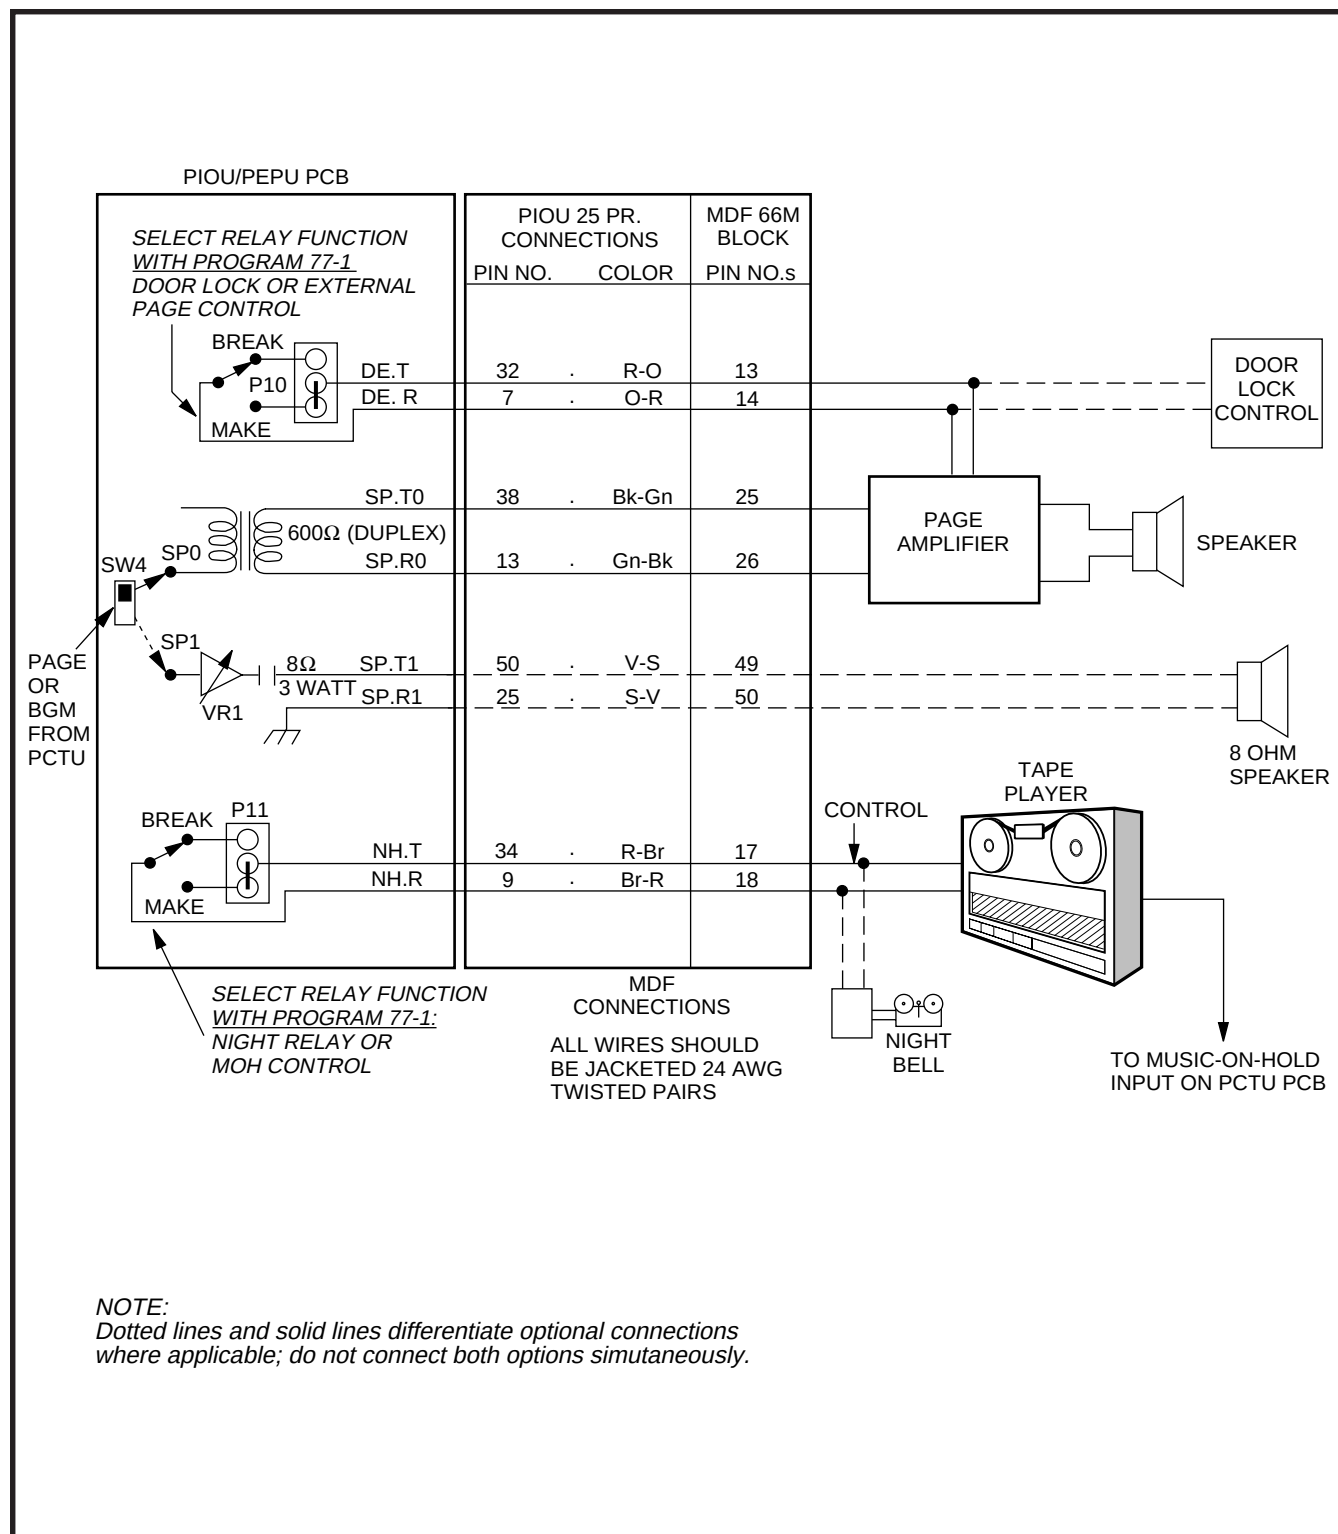

FIGURE 8-8
4.00 Two relays are provided on the PIOU, PIOUS, and PEPU PCBs to control the operation of peripheral equipment (see Figures 8-8 and 8-9):
4.11 The External Page/Door Lock Relay may be programmed for either the external page function or the door lock control function. (Refer to Figures 8-8 and 8-9.)
4.14 External Page Control. Configure the PIOU, PIOUS, or PEPU for the external page mute function in accordance with the following steps: (Refer to Figure 8-8 or 8-9.)
- 3) Refer to Figures 8-8 or 8-9 for wiring/interconnecting details. Connect the PIOU, PIOUS, or PEPU to the MDF as required for the external paging function.
4.21 The NHT/NHR Relay may be programmed for either the Night Relay or the Music-on-Hold (MOH) relay function. (Refer to Figures 8-8 and 8-9.)